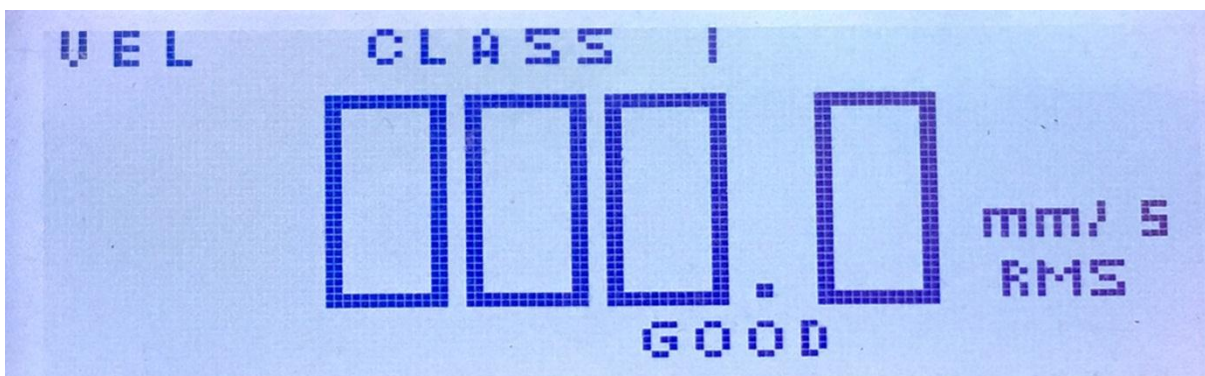

fig. 3.7
3.9.1 Place the parameter switch located on the right side of the meter to VELOCITY, and the PEAK/RMS switch to RMS. The display will be as shown in fig. 3.7 below. At the top is shown the machine class – which you need to set to either class I,II,III or IV. Then at the bottom is the resulting machine condition which the vibration meter measures. The meter will compute and display the severity level based on the rms value measured (similar to the chart at the bottom front panel of the meter).